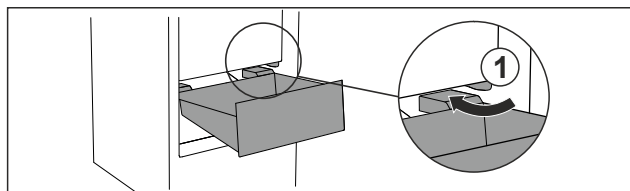

Fig. 136
- Guide drawer in at an angle around the stoppers Fig. 136 (1).